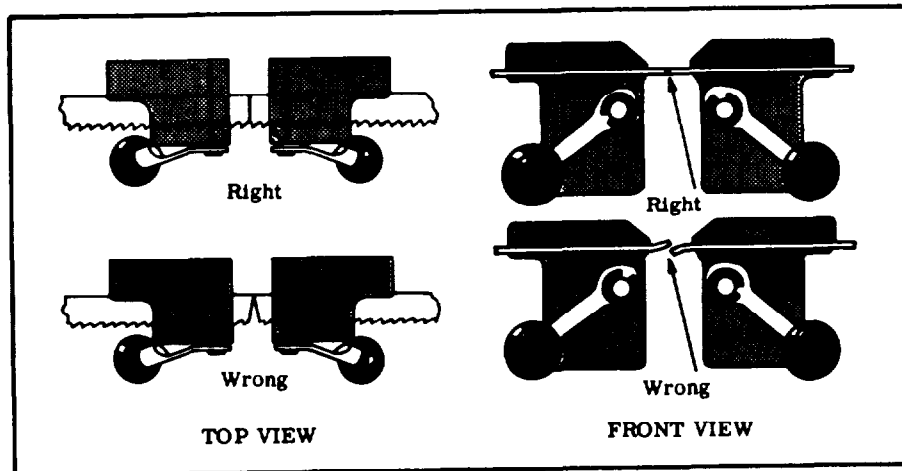

Fig. 24 - Saw blade alignment
- (1) If internal sawing is to be done, the blade is inserted through the starting hole in the work. The ends of the saw blade are then brought to the welder to be clamped into the jaws.
- (2) Insert the saw blade between the jaws with the back of the blade against the back of the jaws lining up the blade so that it will be straight after welding.
- (3) The blade ends should meet in the center of the jaw gap without any offset either in thickness or across the width (fig. 24). If the ends are clamped in an offset manner an overlapping weld will result. This type of weld will have to be ground too much, resulting in a weak weld.
- (4) If the contact across the width is not complete when the ends are clamped in the jaws, remove one end and recut it. A misaligned joint will cause an incomplete weld.